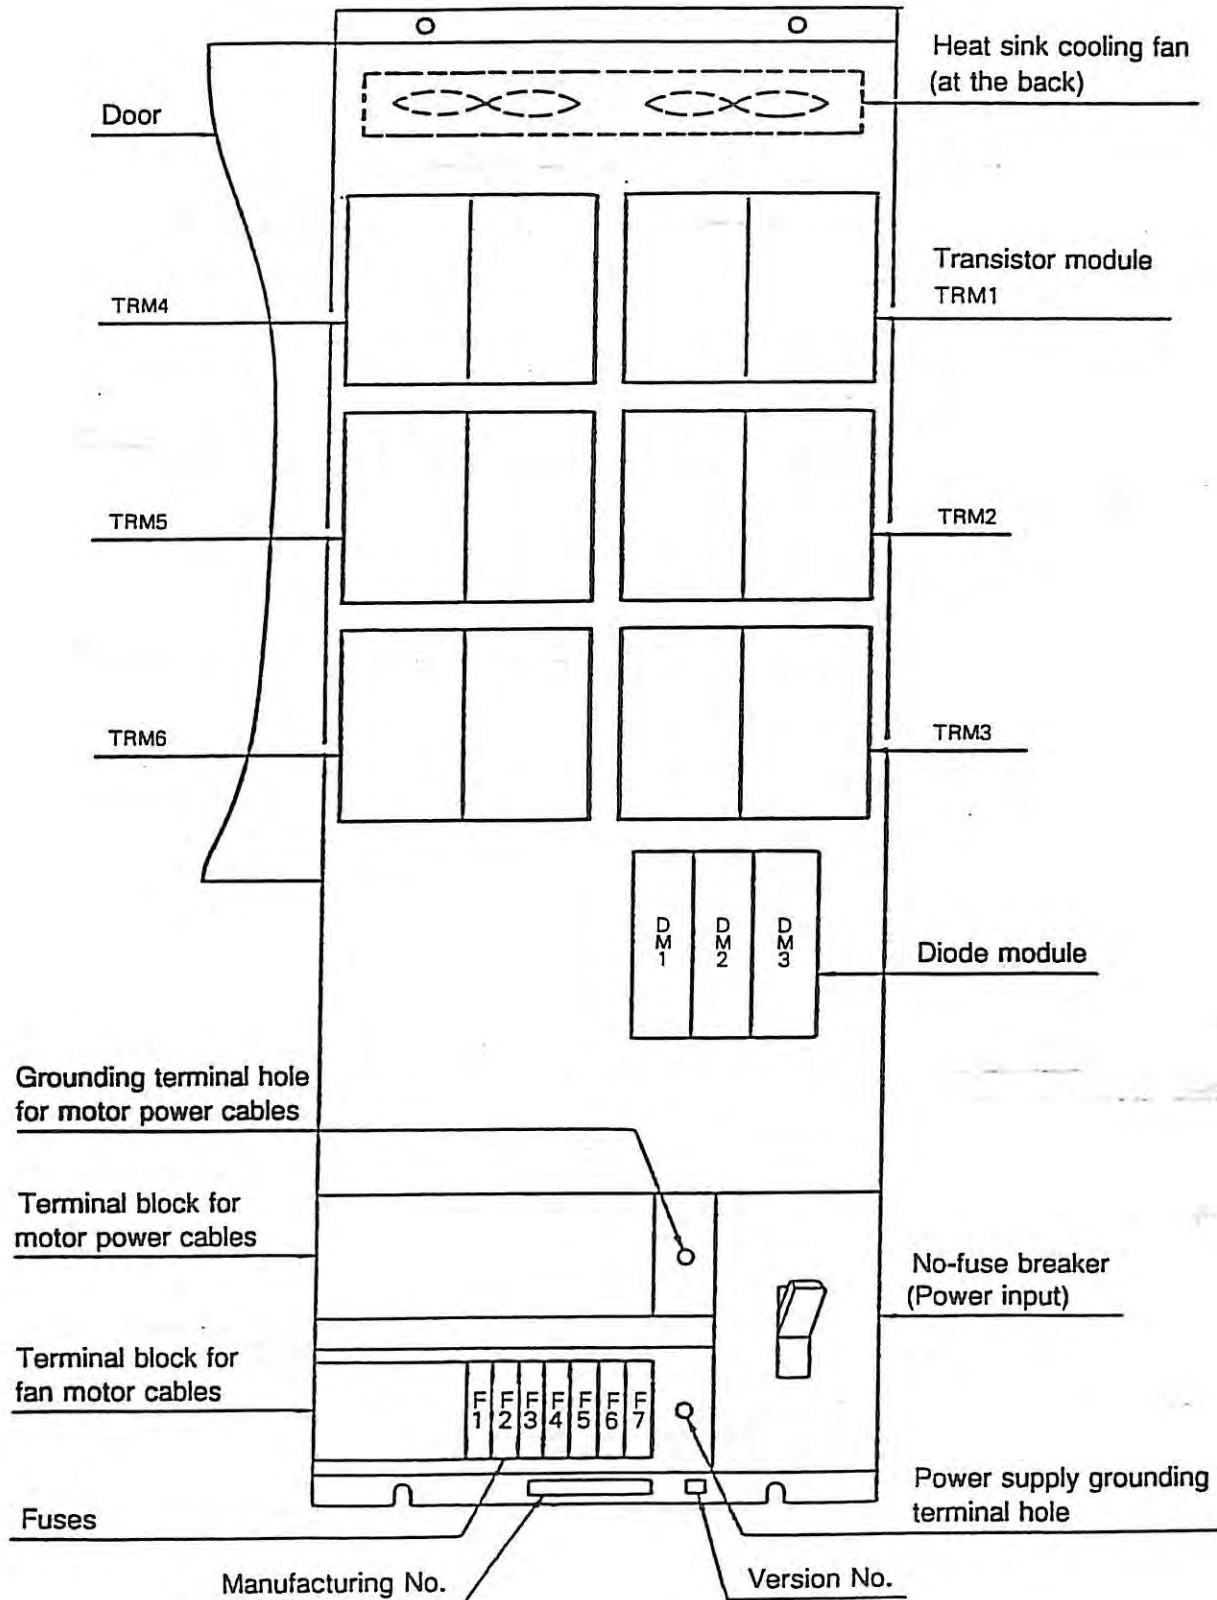

Fig. 4-6 Major Component Parts Arrangement for Power Supply Unit - D22A
- Fig. 4-6 Major Component Parts Arrangement for Power Supply Unit - D22A